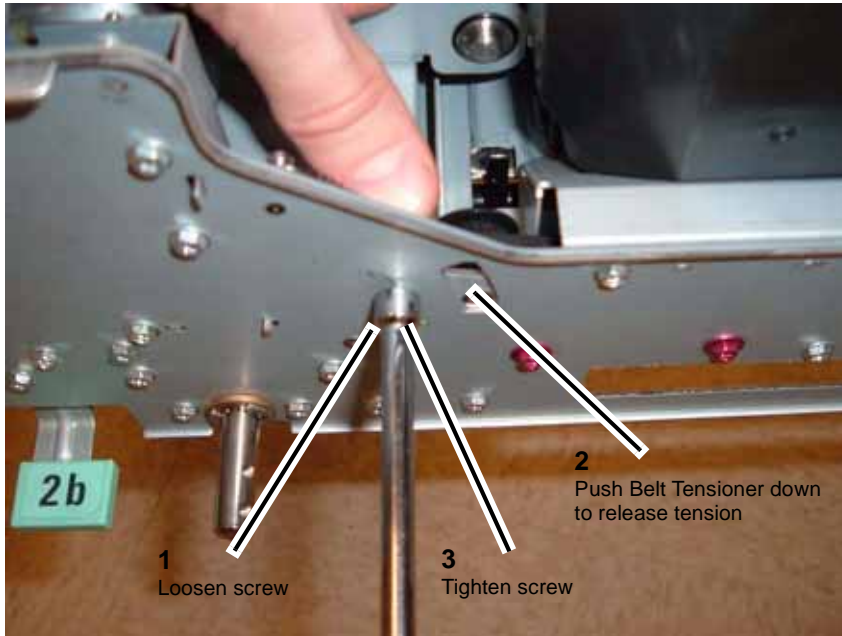

Figure 5 Releasing Belt Tension
6. Release Belt Tension (Figure 5).